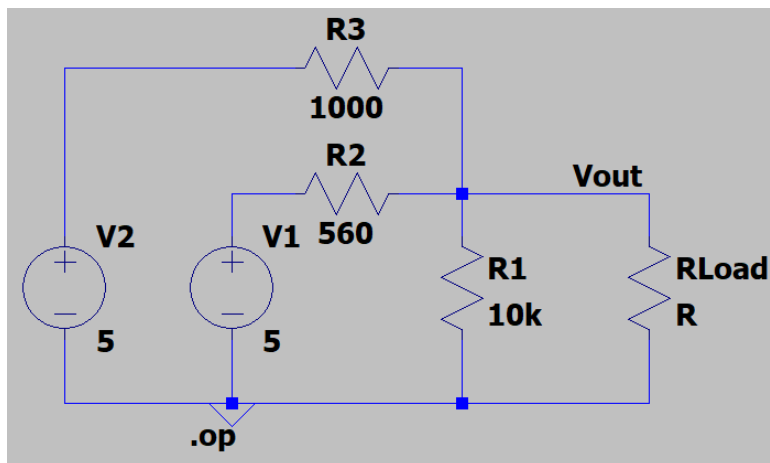

Fig. 2 2-bit R-2R ladder DAC.
20. Lastly, let's create a separate plot of the power dissipated by the load (as Fig. 2). Paste the following at the end of your .m file and run the program one last time.
23. Paste Fig. 2 below. (3pts)
24. Comment on the shape of Fig. 2. (Is this what you would expect? What does the peak correspond to? Note the peak might not be exactly where you expect it to be, since we only tested certain resistor values.) (3pts)
- Second, the output voltages are connected in such a way that they can be inaccurate under load (when another electrical component is connected to the output of the R-2R ladder). To see this type of problem in action, consider the equivalent circuit of a DAC R-2R ladder as shown in Fig. 2, which includes a load (resistor) connected to the output of the DAC (on the right side of the diagram).
1. Draw a Thévenin equivalent circuit for the circuit shown in Fig. 2. Make sure to note the Thévenin voltage and the resistance in your diagram. (6pts)